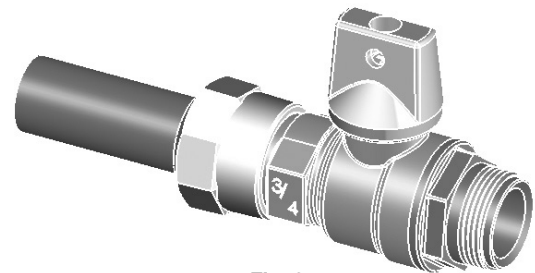

Fig. 3
6. Insert tube complete with tailpiece into valve and hold firmly in place while tightening coupling nut “hand tight.” Using a smooth jawed wrench, apply an additional 7/8 to 1 full turn to the coupling nut. (Fig. 3)